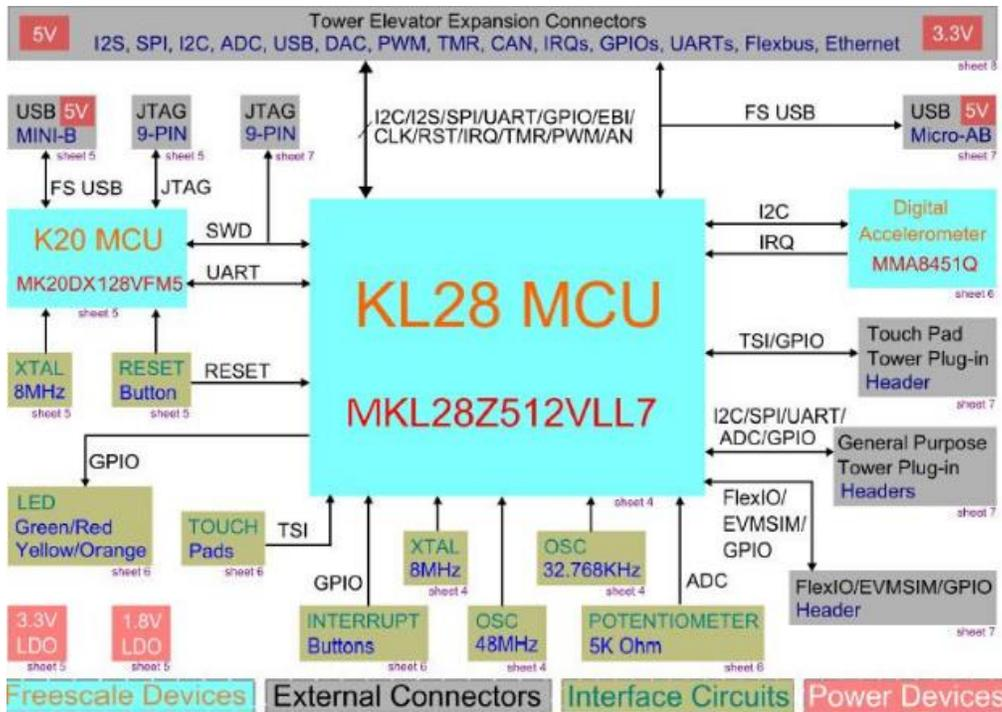
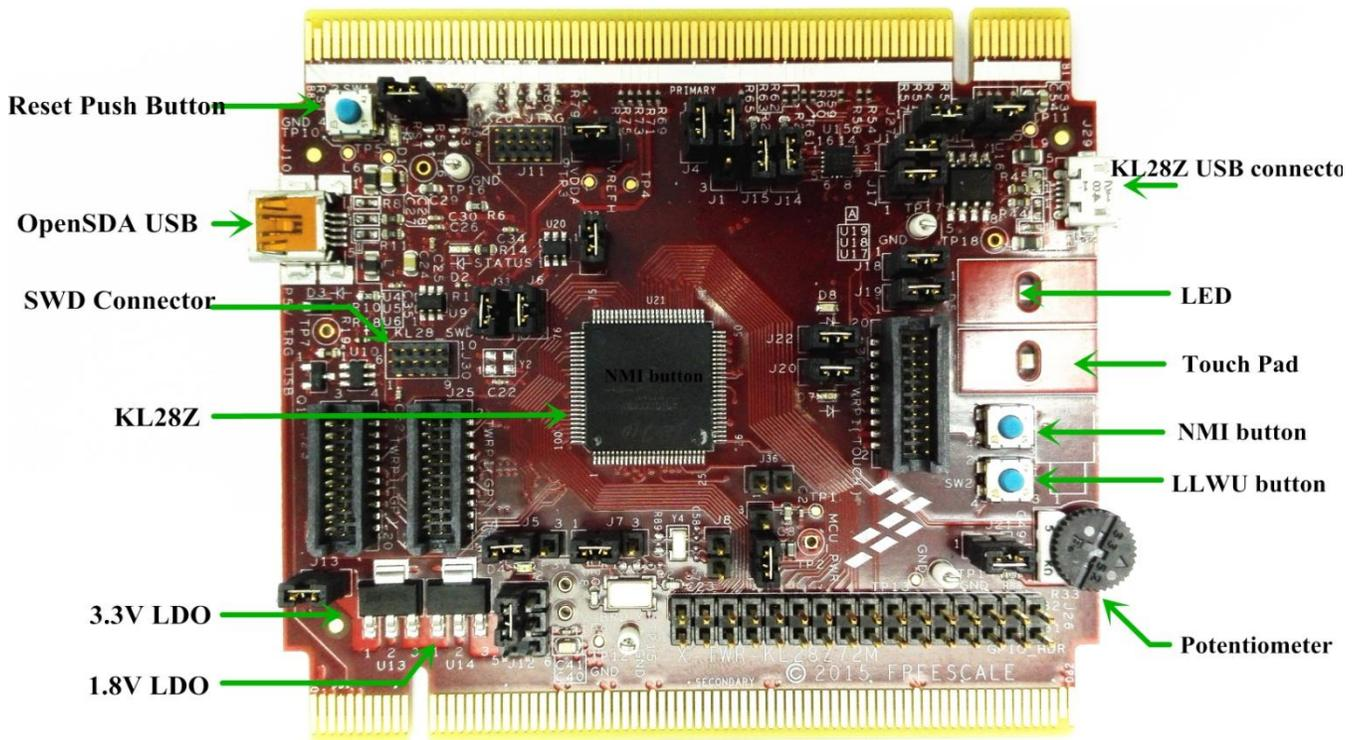

Figure 1. TWR-KL28Z block diagram
Figure 2. TWR-KL28Z feature call-outs
*Figure 1* shows a block diagram of the TWR-KL28Z board. The primary components and their location on the hardware assembly are pointed out in *Figure 2*.